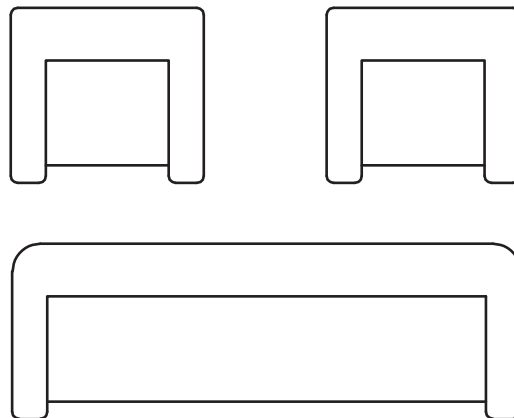

Fig. 18-14
4. Create the two armchairs shown in Fig. 18-14. Approximate their sizes, but align them as shown in the illustration so that the backs of the chairs are colinear. Use the chairs to make a matching sofa. To do this, make a copy of both chairs. Then remove the inside arms on the copies of both chairs and extend the horizontal lines to meet, as shown. Finally, use the **JOIN** command to join the lines that represent the back of the sofa so that the back of the sofa consists of a single line. Join the other horizontal lines as well. Save the file as **furniture.dwg**.